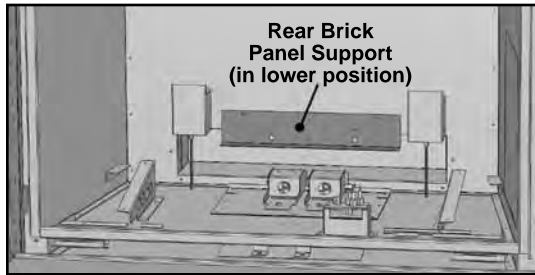

Figure 61: Rear Brick Panel Support.
1. Prior to installing the firebox liners, you will need to ensure the Rear Brick Panel Support is in the correct position. The support is located at the back of the firebox (see Figure 61) and can be installed in two (2) positions. The upper position (using the lower screw holes) is for the October Panels. The lower position (using the upper screw holes) is for the Sandstone, Ledgestone, and Porcelain Panels. Remove the Support, if necessary, and move it to the appropriate placement.
2. Ensure the Rear Brick Panel Support is in the lower position. The support is located at the back of the firebox (see Figure 61). Remove the Support, if necessary, and move it to the appropriate placement.